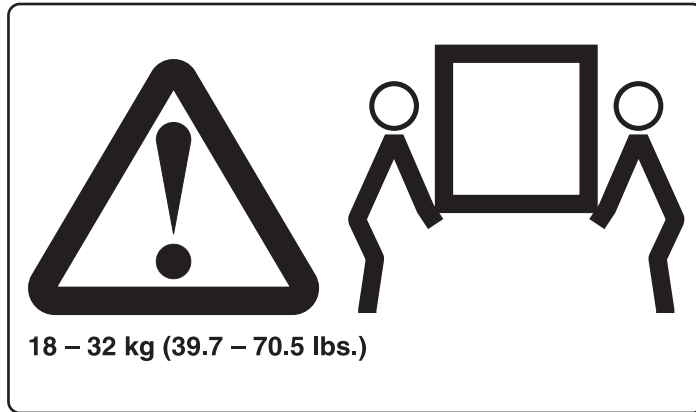

Figure 12. Two-man lift label on battery unit
1. Two-man lift label. See Figure 12 on page xxii.